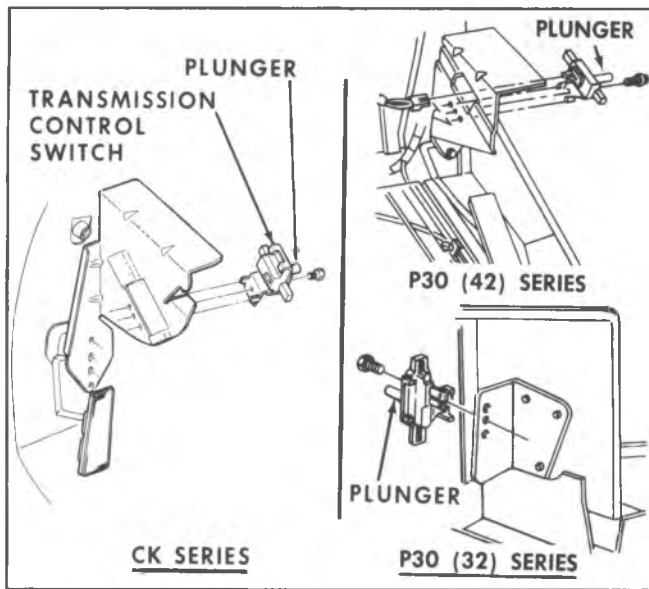

Fig. 1L-Detent Downshift Switch
1. Install switch as shown in Figure 1L.